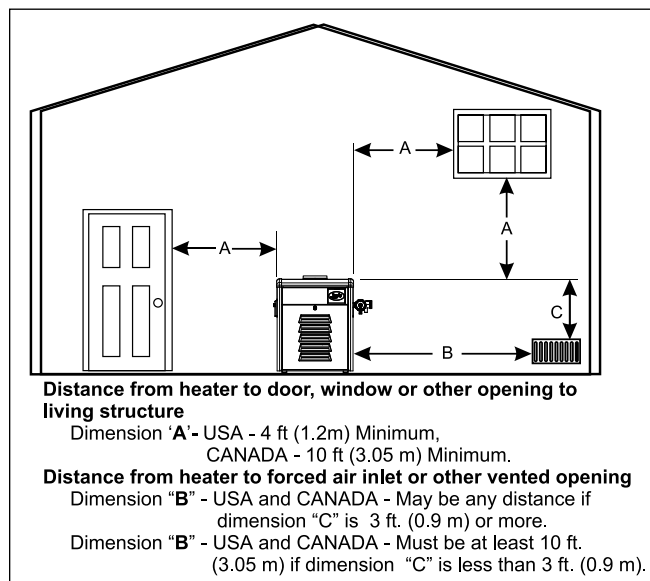

Figure 3. Outdoor Heater Installation
In the United States the vent system shall terminate at least four (4) ft (1.2 m) below, four (4) ft (1.2 m) horizontally from, or one (1) ft (300 mm) above any door, operable window, or gravity inlet into any building. In Canada, the heater must be installed so that the exhaust point of the heater is at least 10.0 feet (3.0 m) from any building opening. See Figure 3.